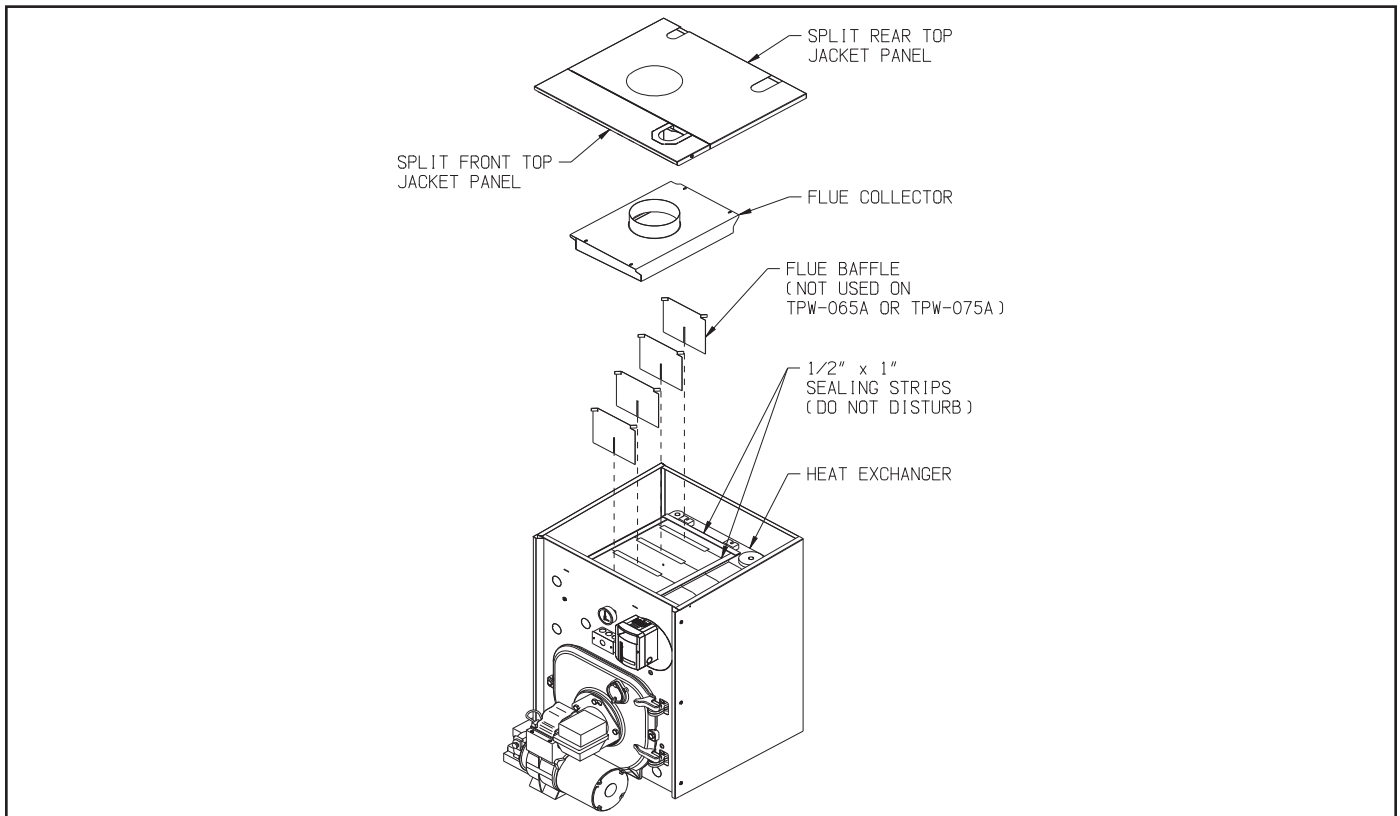

FIGURE 4.2: FIELD INSTALLATION OF FLUE BAFFLES
- c. Drop one baffle into each passage as shown in Figure 4.2